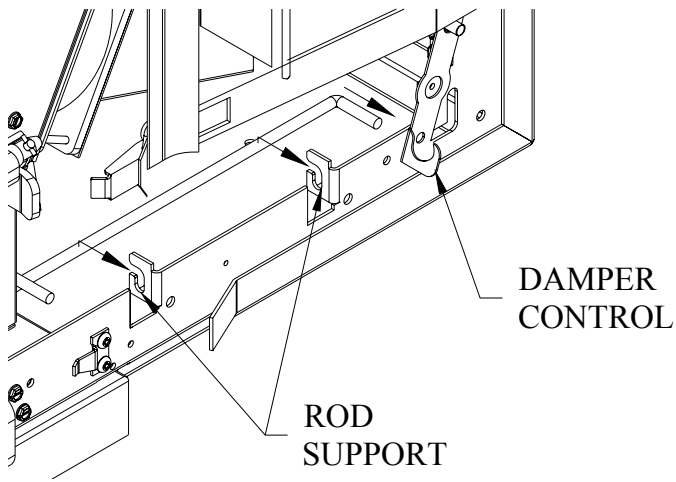

Figure 25
- 1- Install the damper rod as shown in Figure 25 & 26